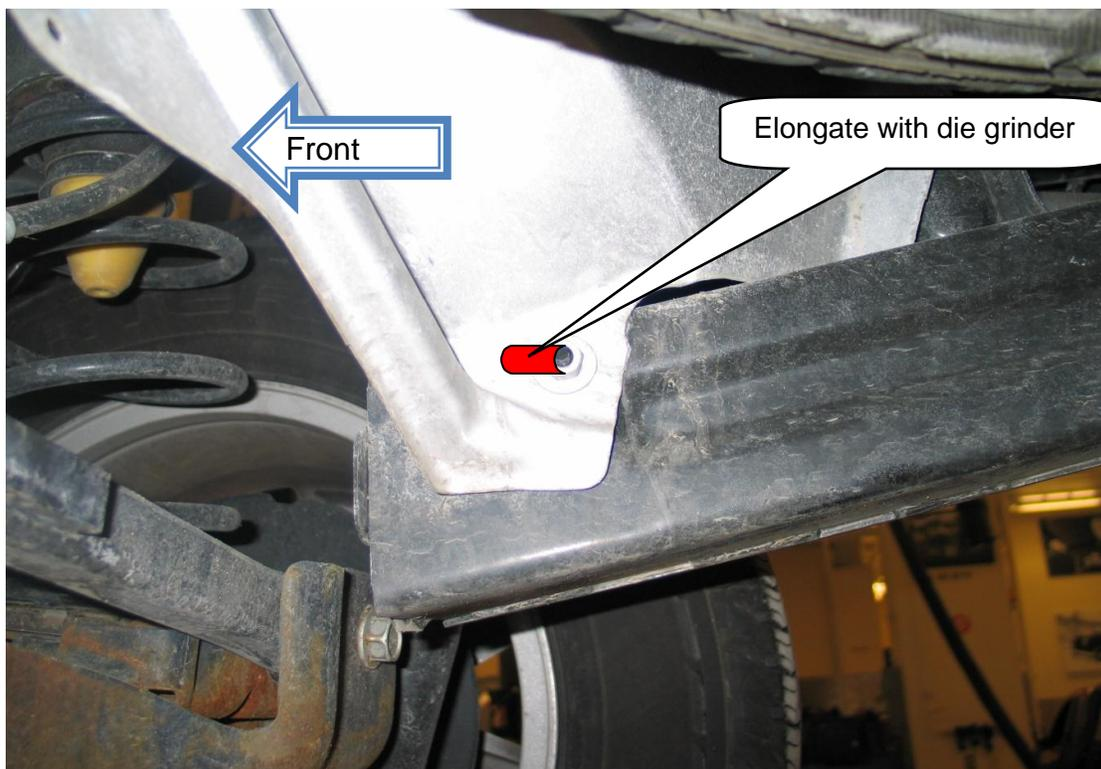

Figure 3-
4. Using a die grinder and pencil bit; elongate the lower heat shield attachment hole towards the front of the vehicle approximately 6 to 10 mm (.250 to .375 In) Fig 3.